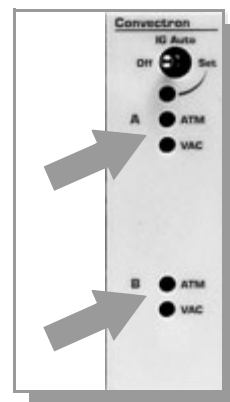

Figure 4-12 Convectron Gauge Zero and Atmospheric Adjustments.
2. With power on and at vacuum less than 1×10^{-4} Torr for at least 15 minutes, adjust VAC for gauge A (see Figure 4-12) until display A indicates 0.0 0 Torr/mbar or 0.0 0 Pa, not 1.0 -4, 1.0 -2, or 0.0 -0.